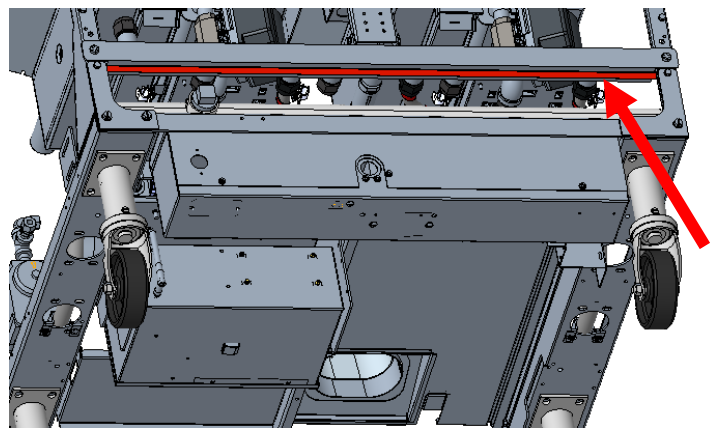

Fig 7
7. Using one of the 36-inch heaters from the kit and a length of foil tape, attach the heater to bottom side of manifold wrapping extra length around the ends and over the top securing in place with foil tape. (Figure 7).